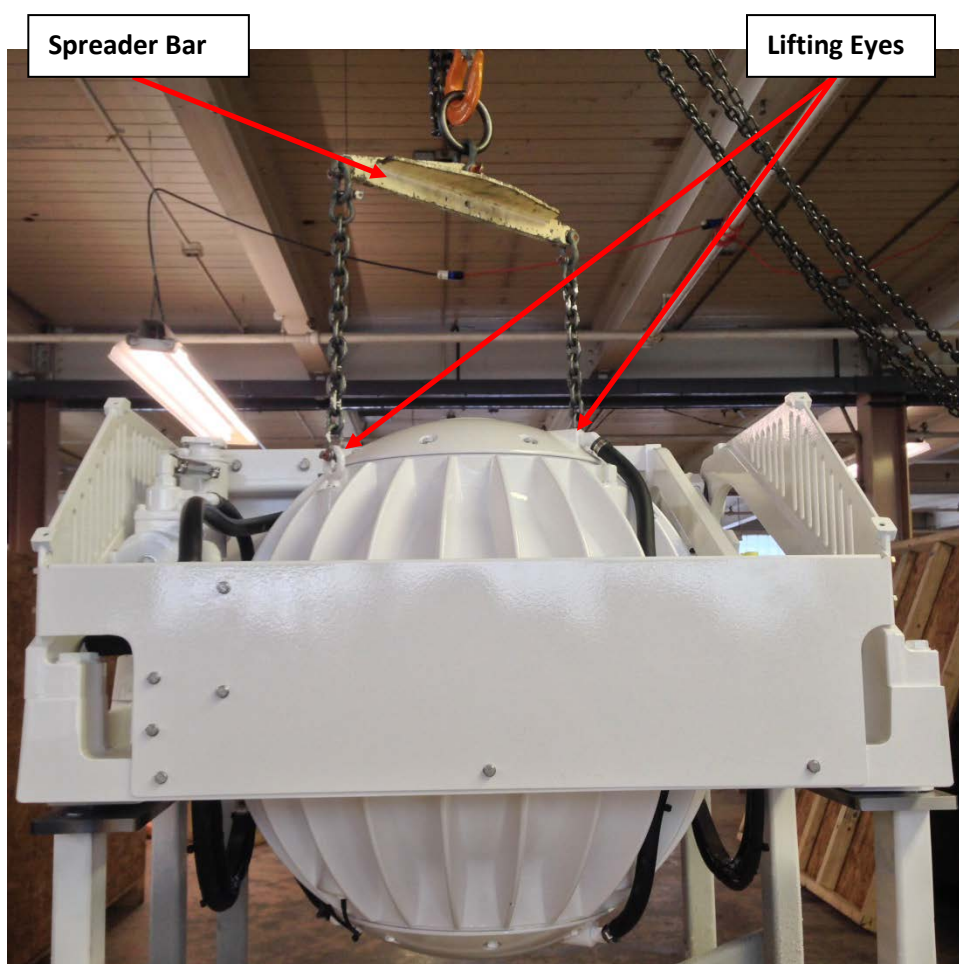

FIGURE 4 – LIFTING ARRANGEMENT
- 5) Attach spreader bar to the two lifting eyes located on the top of the gyro enclosure. Stay clear of any other parts on the gyro. Gyro weighs 368 kg (810 lbs). See Figure 4 below.